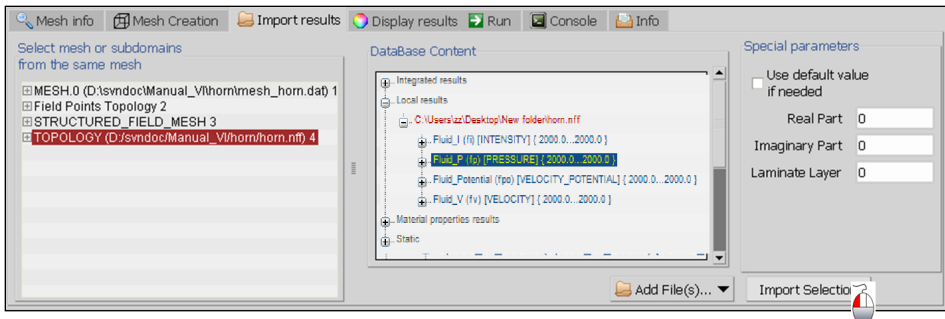

Figure 6.49: Import the pressure results from the horn.nff database
- In the Toolbox, Import results tab, select the topology corresponding to the horn.nff and select the Pressure quantity to import, as shown in Figure 6.49;